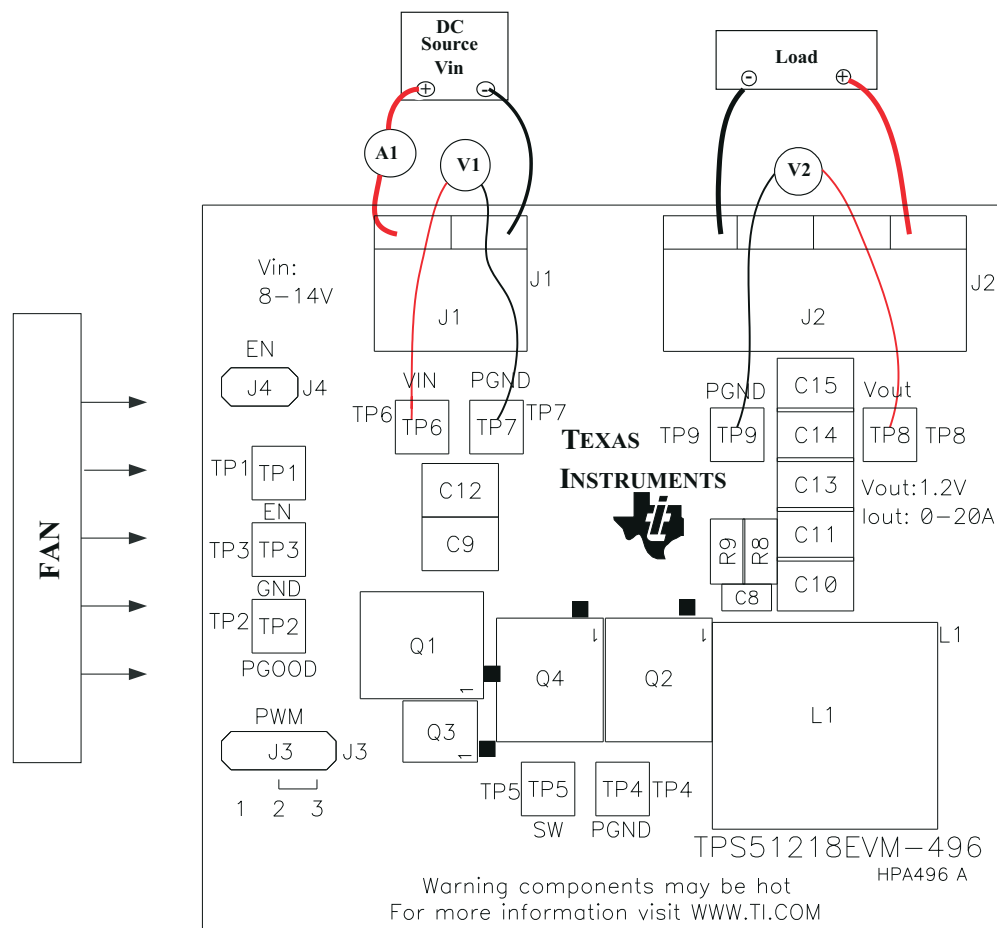

Figure 4-2. TPS51218EVM Recommended Test Setup
Voltage Source: The input voltage source, V_{IN} , must be a 0-V to 14-V variable DC source capable of supplying 10 A_{DC}. Connect V_{IN} to J1 as shown in Figure 4-2.
Multimeters: A 0-V to 15-V voltmeter must be used to measure V_{IN} at TP6 (VIN) and TP7 (PGND) and a 0-V to 5-V voltmeter for V_{OUT} measurement at TP8 (VOUT) and TP9 (PGND). A 0-A to 10-A current meter (A1) as shown in Figure 4-2 is used for input current measurements.
Figure 4-2 shows the recommended test setup to evaluate the TPS51218EVM. Working at an ESD workstation, ensure that any wrist straps, bootstraps, or mats are connected referencing the user to earth ground before power is applied to the EVM.
1. Prior to connecting the DC input source V_{IN} , it is advisable to limit the source current from V_{IN} to 10 A maximum. Ensure that V_{IN} is initially set to 0 V and connected as shown in Figure 4-2.
Place a fan as shown in Figure 4-2 and turn it on, making sure that air is flowing across the EVM.